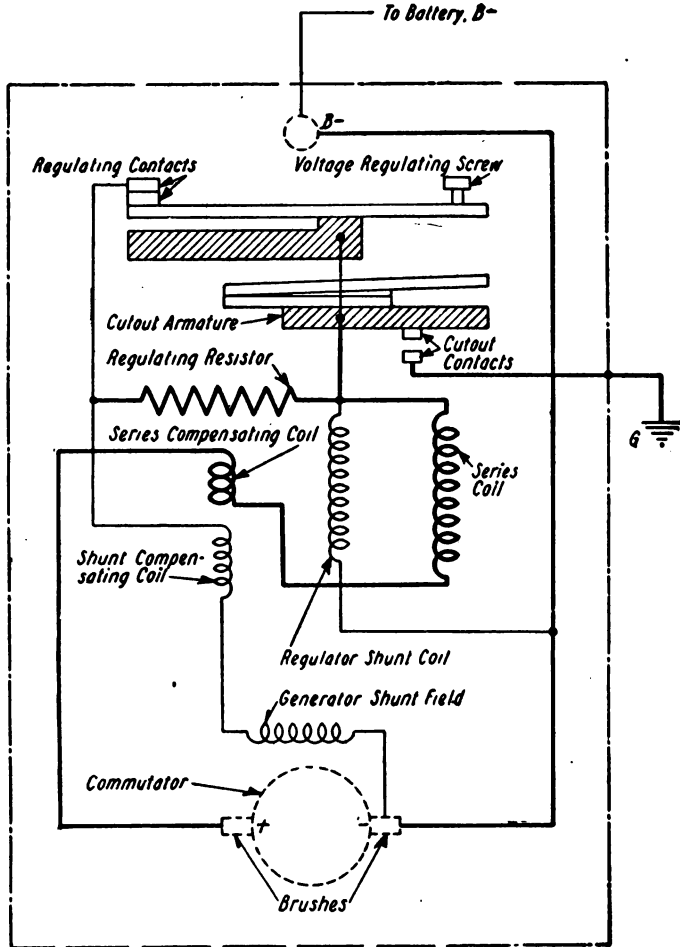
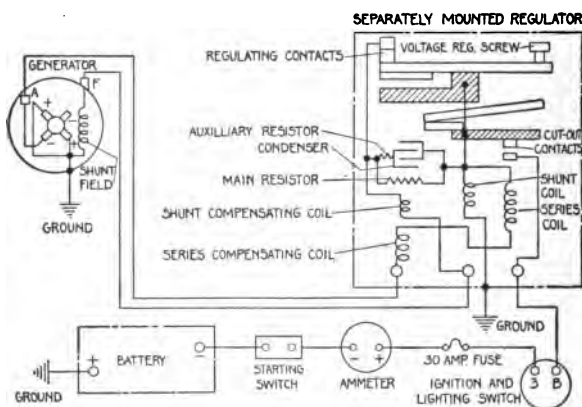

Fig. 467. Wiring Diagram for Westinghouse Generator with Self-Contained Regulator
Fig. 468. Internal Wiring of Pierce-Arrow Voltage Regulator
these pole pieces are two pivoted armatures; one armature, the cutout armature, controls the generator circuit to the battery; and the other, or regulator armature, controls the current output of the generator. The E-shaped magnet core provides a two-path magnetic circuit from the center core. Both the cutout armature and the regulator armature are pivoted over this center core, their outer ends overhanging the other extremities of the core, one armature extending to the right, the other to the left, Fig. 467.
As the generator increases in speed, the voltage increases with it, since the shunt winding of the regulator is connected across the generator brushes, Fig. 467. It increases its pull on the regulator armature, as the current delivered to the battery passes through the series coil of the regulator (left-hand coil, Fig. 468) and also exerts an additional pull on the armature, pulling down the armature and opening the points. This cuts in the regulator resistance coil, reducing the generator output; and as this reduction in current allows the armature and points to return, the operation is repeated. As the inductance of the shunt field prevents a sudden rise or fall of the field current, an average is
**Westinghouse Voltage Regulator on Pierce-Arrow.** This regulator is similar to the standard voltage regulator, but with a few additional changes. The points are bridged with a condenser in addition to the regular resistance unit, both being in multiple. This helps to prevent sparking. The standard resistance unit should be 30 ohms. It also contains a shunt compensating coil in series with the generator shunt field, which increases the sensitiveness of the regulation. This coil is wound on the regulator pole piece, Fig. 468, its purpose being to oppose the action of the series compensating coil, and it also helps in demagnetizing the regulator circuit and producing a quicker vibration with a subsequent even regulation. The setting is accomplished in the same way as in the standard regulator.